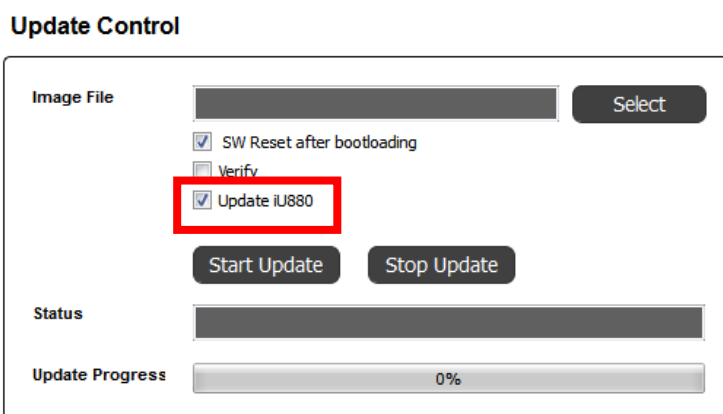

Figure 4-3: Check Update iU880A
- To update the iU880A USB Stick device the bootloader mode is entered automatically if the check on *Update iU880A* (see Figure 4-3) is set. Make sure that no other WiMOD USB devices are attached to your PC during update process.